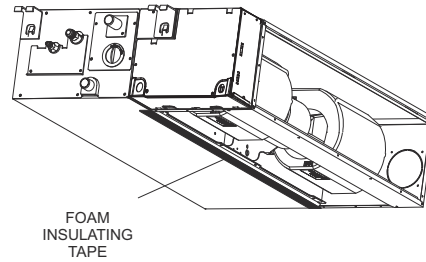

Fig. 16 —Applying Foam Insulation Tape
1. Apply foam insulating tape to the return air opening on the bottom of the unit. See Fig. 16 below.